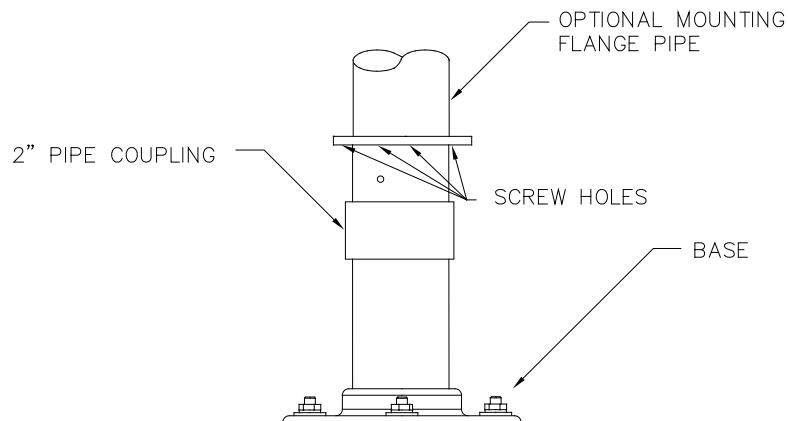

Figure 3-22 NGC Optional Mounting Flange Pipe
- 2) If the installation has the optional mounting pipe with flange, ensure the screw holes in the upper flange align with the holes located in the NGC neck bottom (see Figure 3-22).